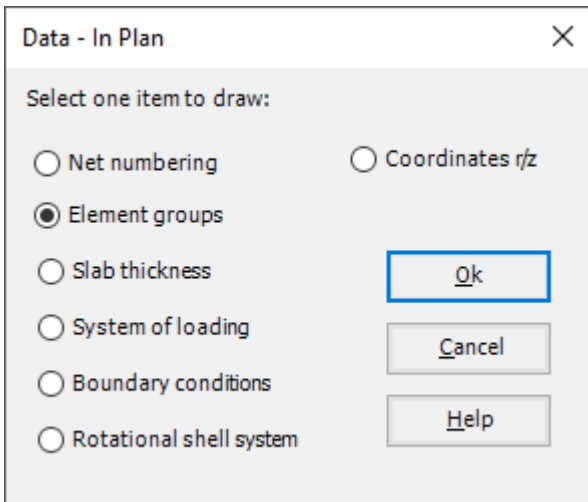

Figure 9.32 "Data – In Plan" option box
- Choose "Element groups" from "In Plan" command in "Data" menu. The following option box in Figure 9.32 appears